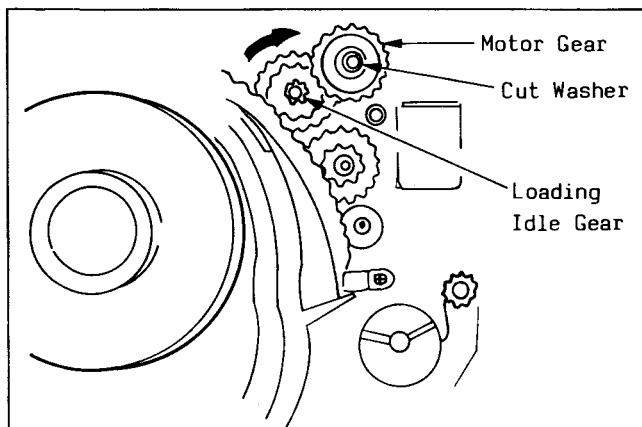

Fig. M11
- (6) Remove the Cut Washer and Motor Gear. Then place the Unit in play position completely by rotating Loading Idle Gear clockwise as shown in Fig. M11.